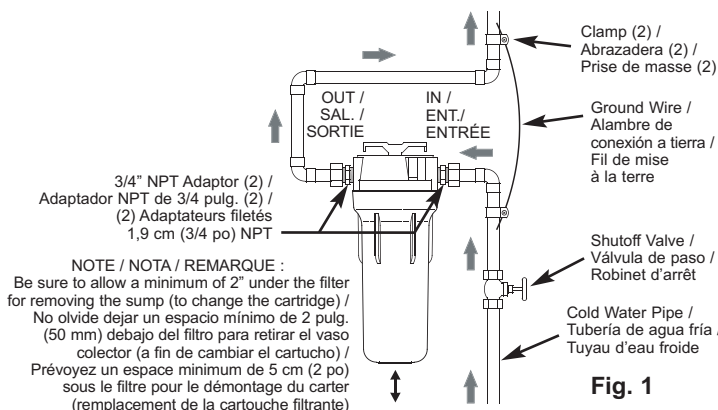

Fig. 1
To filter all house water, install the filtration system on the main (COLD) supply water pipe near where it enters the house (See Figure 1).
3. Cut out a section of the COLD water supply pipe several inches long, as needed to install the filter as shown in Figure 1.
5. With the IN side of the water filter toward the incoming water, make connections, as shown in Figure 1. When tightening compression nuts, be sure to use a second wrench to hold the 3/4" NPT fitting while turning the nut.
The house cold water pipe is often used to ground electrical outlets in the home. Grounding protects you from electrical shock. Installing the water filter may have broken this ground. To restore, buy and install a #4 copper wire across the filter, tightly clamped at both ends, as shown in Figure 1.
Pour filtrer l'eau de toute l'habitation, installez le système de filtration sur le tuyau principal d'arrivée d'eau FROIDE près de l'endroit où il entre dans la maison (voir figure 1).